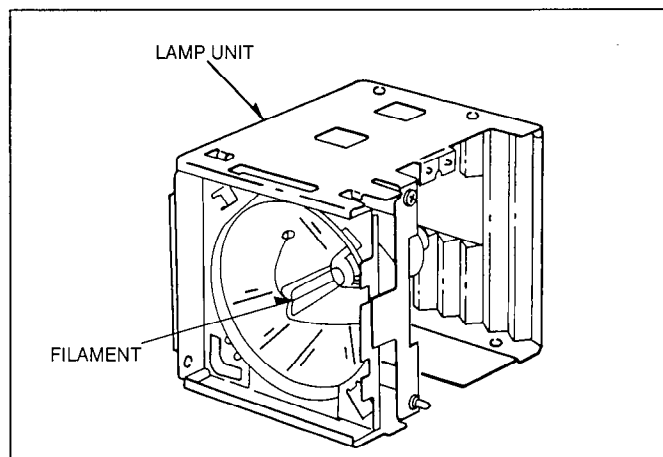

Fig. 3
4. The high pressure lamp involves a risk of explosion. Therefore, do not touch the Lamp Filament when servicing. (See Fig. 3)